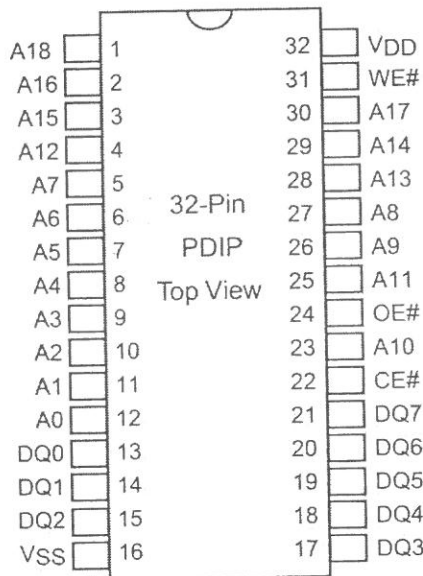

Figure 6(a) Flash Memory pin configuration
- (a) Figure 6(a) shows a SST39SF040 multi-purpose flash memory chip pin configuration. This memory chip from Microchip will be used to connect with a PIC microcontroller externally. Determine the memory capacity in Kbits, memory organization and number of address pins and data pins used by this memory chip. (6 marks)